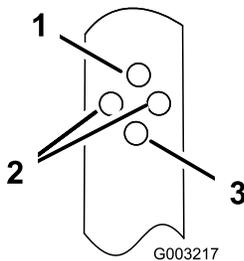

Figure 16
2. Insert the bolt through the hole in each of the handle brackets that sets the handle to the desired position (Figure 16).